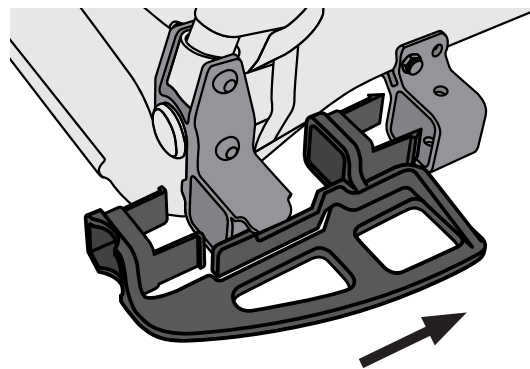

Figure 7
1. Position the wheel guard as shown (Figure 7).